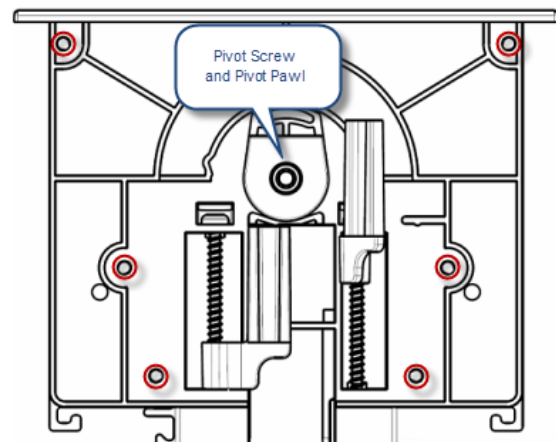

FIG. 4 HPX BASE ASSEMBLY (SHOWN MOUNTED) - MOUNTING/PIVOT SCREW LOCATIONS
1. Remove the (silver) pivot screw and pivot pawl assembly in the center of the End Cap (FIG. 4).
3. Secure the End Cap with the six (black) sheet metal screws (removed in Step 2 - 2; see FIG. 4).
4. Replace the (silver) pivot screw and pivot pawl assembly (removed in Step 2 - 1, see FIG. 4) in the center of the End Cap.